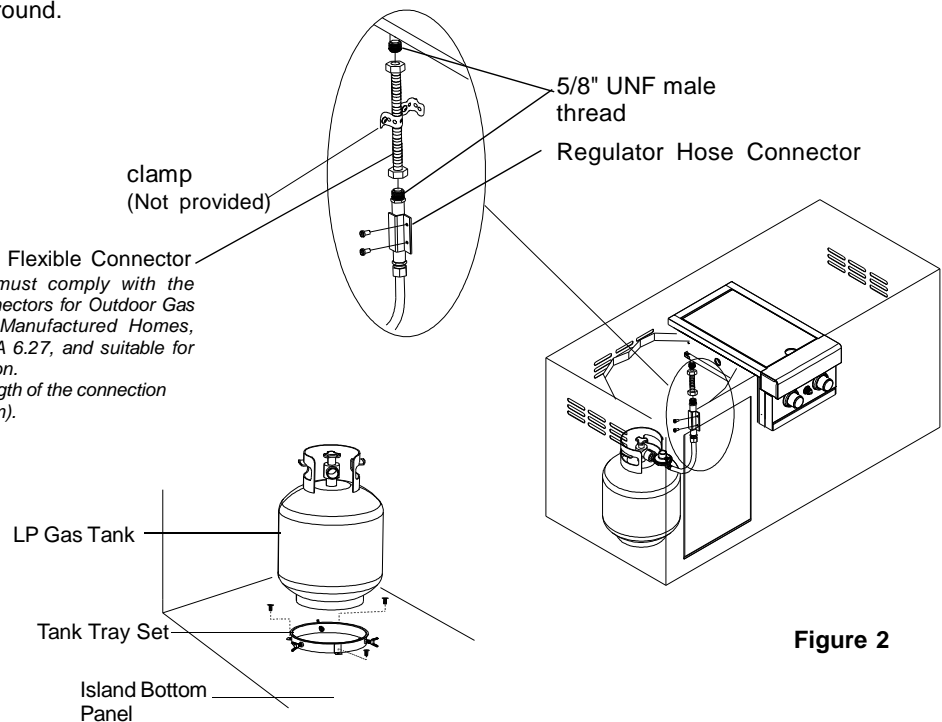

Figure 2
- Place the LP gas tank into the tank tray set. Make sure the tank valve facing the right rear corner of left island. Tighten the wing bolt to secure the LP gas tank. (See Fig. 2)